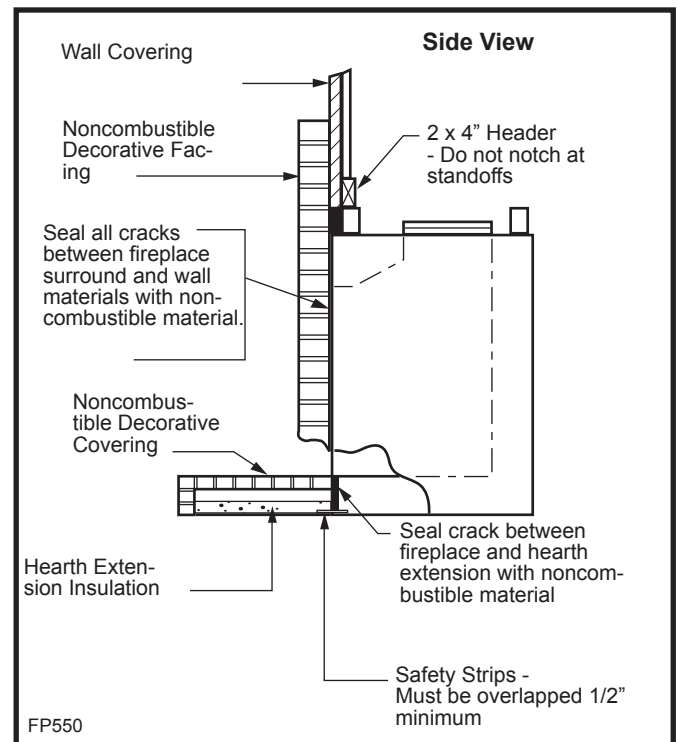

Fig. 22 Sealing gaps.
**WARNING:** Hearth extension must be installed in accordance with Figure 22 and must not cover the bottom front opening of the circulating model.